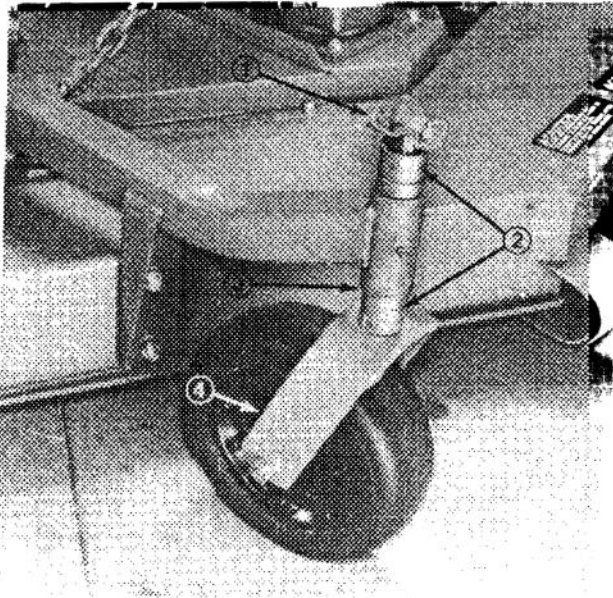

Figure 1
3. Slide spacers onto caster spindle to get desired height-of-cut: refer to Height-of-Cut Chart, page 10. Slide thrust washer onto spindle, push large caster spindle through front caster arm and small caster spindle through rear caster arm, install remaining spacers onto spindle and install lynch pin to secure assembly (Fig. 1, 2).
IMPORTANT: Thrust washer — not the spacers — must contact the bottom of the caster arm (Fig. 1, 2).
Note: Insert lynch pin in front side of spindle with caster wheels pointed in a forward direction (Fig. 1, 2).